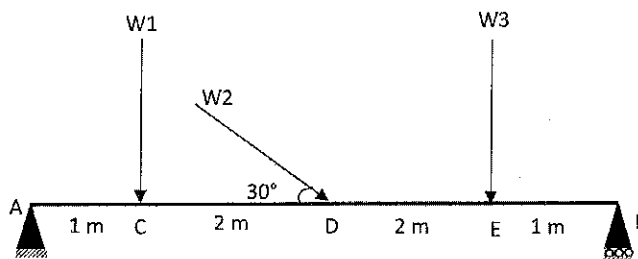

Figure 3
9. Determine the reactions at the supports of the beam shown in Figure 3. 8